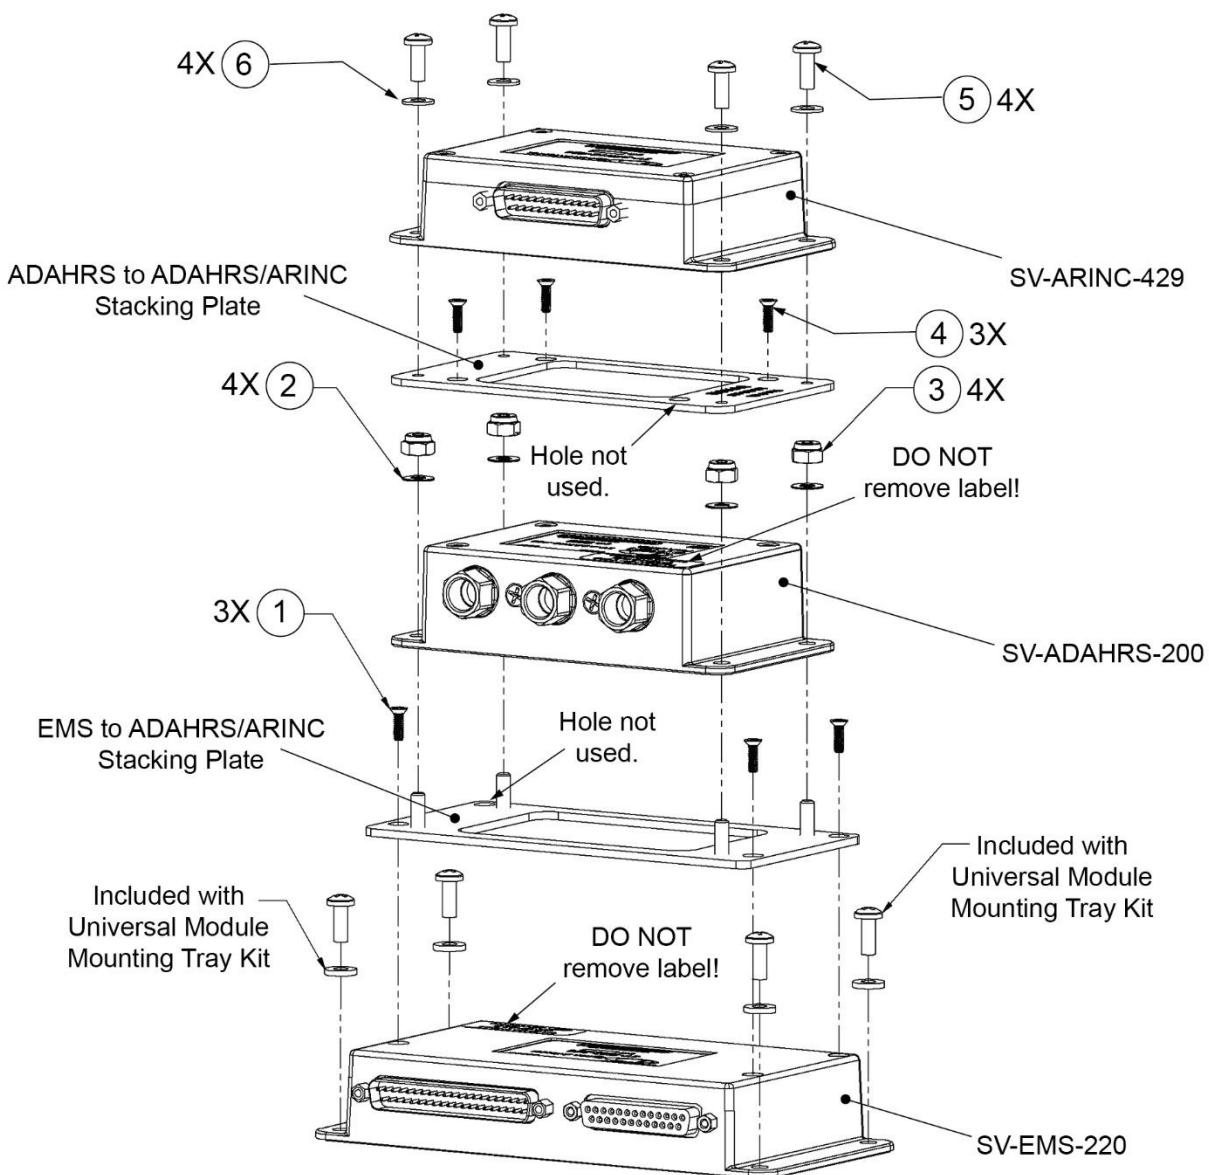

Figure 11: Usage Example of Module Stacking Kits
The materials identified in Table 10 are provided with the EMS to ADAHRS/ARINC Module Stacking Kit and the ADAHRS to ARINC Module Stacking Kit. ITEM numbers call-out parts in Figure 11.
2. Use provided screws to secure stacking plate to module (see Figure 11).
3. Attach module to stacking plate using provided fasteners, as shown in Figure 11.